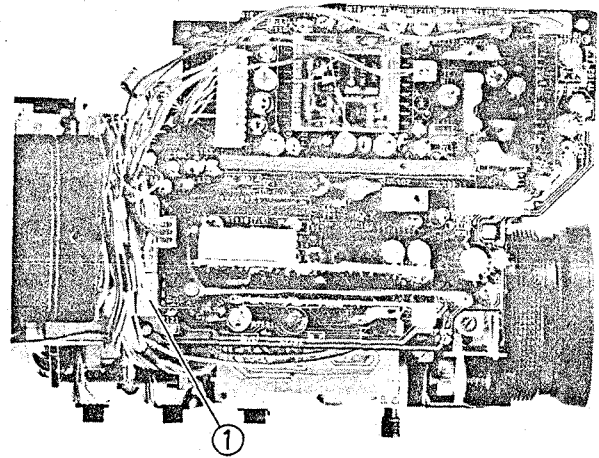

Fig. 2-123 Lens Block Removal
(Figs. 2-123, 2-124, 2-125, 2-126, 2-127, 2-128)
1. Disconnect CN1018. (See Fig. 2-123)